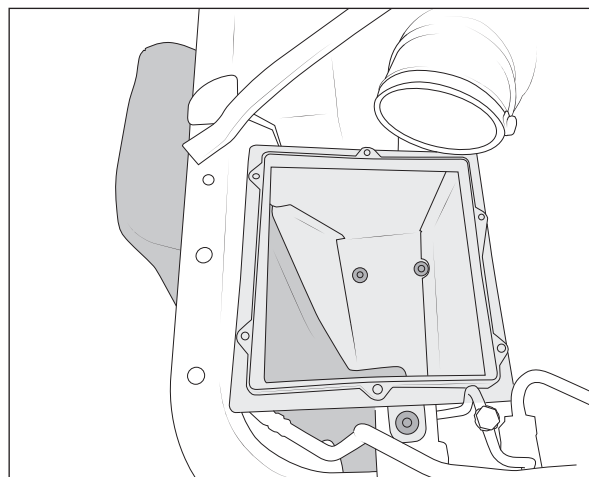

Figure 15
- Install the lower airbox into the engine bay, being sure to fully seat the rubber grommets onto the mounting studs (fig. 15).